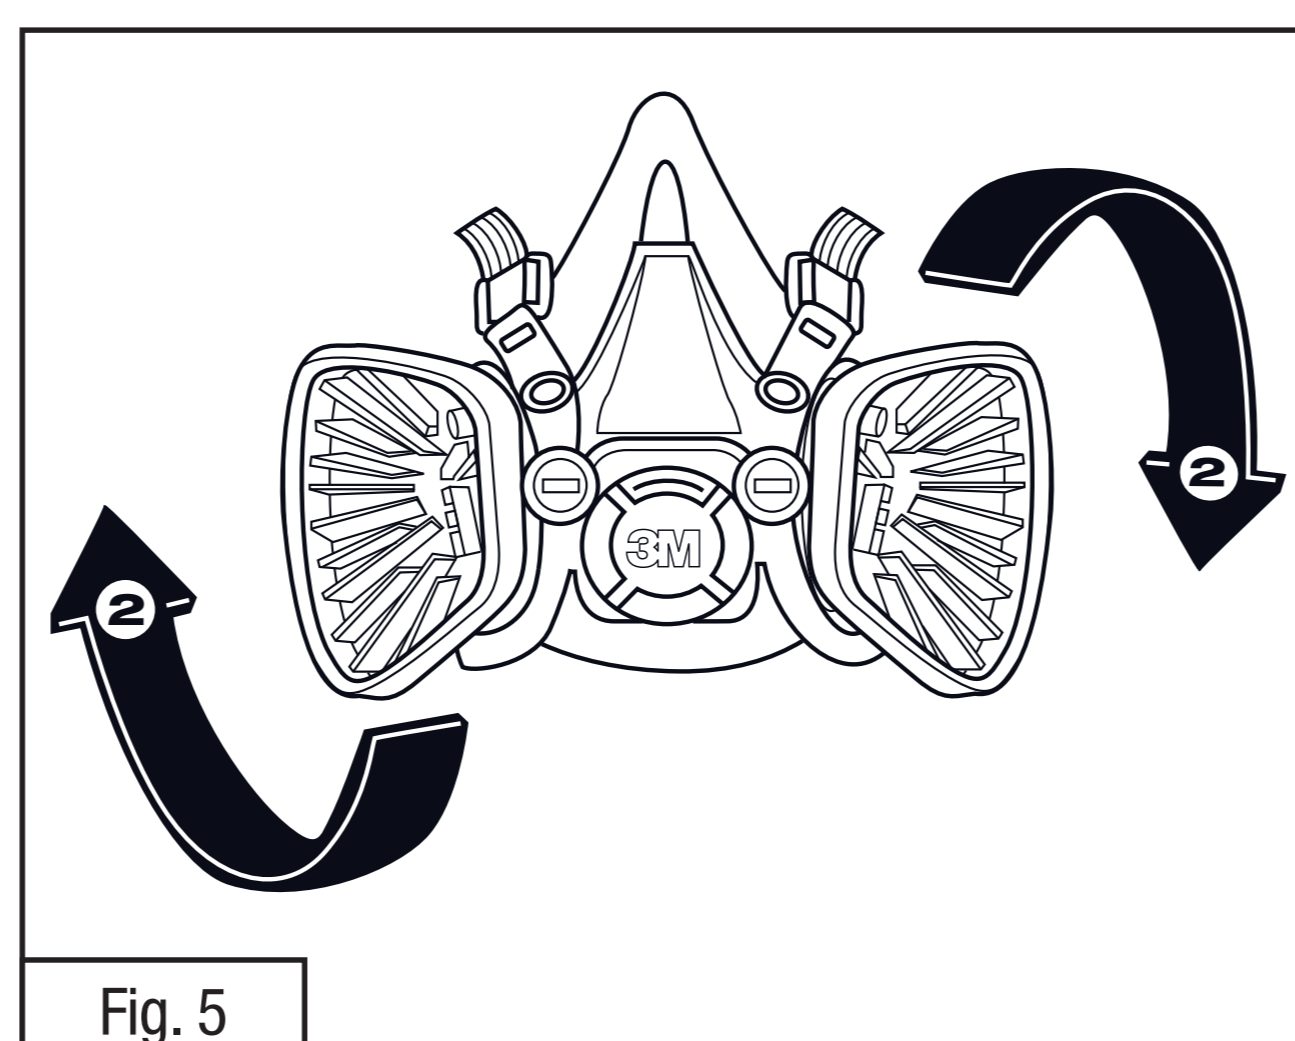

Fig. 5
2. Turn adapter 1/4 turn clockwise to stop. To remove adapter, turn 1/4 turn counterclockwise (Fig. 5).